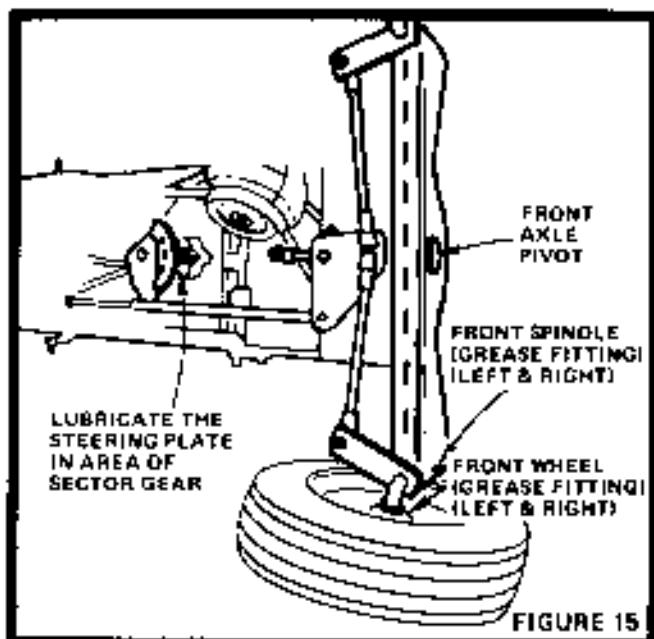

FIGURE 15
There are four Grease Fittings on your Tractor (Fig. 15). Using a Grease Gun, give each Grease Fitting two shots of Extreme Pressure Lubricating Grease Amplex No. 1 or equivalent (available through your Sears Service Center).
- Front Axle Pivot (Fig. 15)
- Steering Plate (Fig. 15).